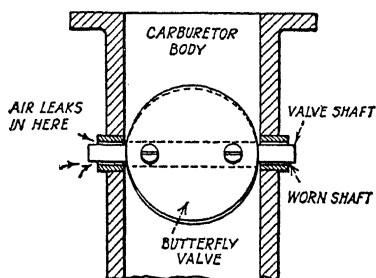

Fig. 165. Worn Butterfly Shaft and Bushings
*Worn Butterfly Shaft and Bushings.* Fig. 165 shows this condition and the only cure is to install new shaft and bushings. This trouble will upset any adjustment that is made on the carburetor because a great deal of air can be drawn into the manifold above the point at which the gasoline and air are mixed. Therefore the mixture is thinned out considerably.